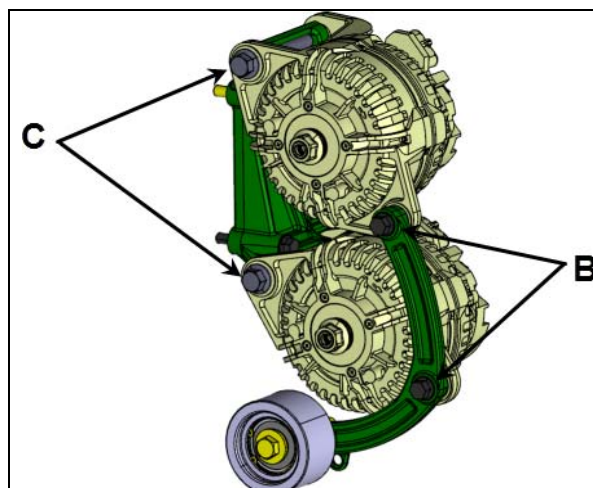

FIGURE 5
8. Install new alternators. Fix lower and upper alternators loosely to alternator supports using bolts **C**. **Apply anti-seize compound inside the alternator mounting ears and inside the sleeves found on the support attached to the engine** (see location C on FIGURE 5). Also, mount arched support loosely onto alternators using bolts **B** (FIGURE 5).